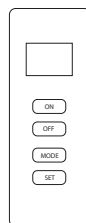

Fig. 21 - Remote
7. Keep control knob depressed for (30) seconds after pilot lights. Release control knob.
- If pilot goes out repeat steps 3 through 7. Wait (1) minute before attempting to light pilot again. If after several tries the pilot still goes out, turn the gas control knob clockwise  to the "OFF" position and call a qualified service technician.
9. To use the included thermostatic remote control, set receiver switch to the "REMOTE" position (See Fig. 21). Press the ON button to turn on the remote to ignite the main burner. Refer to the remote control instruction manual on the next page for "MODE" and "SET" functions.